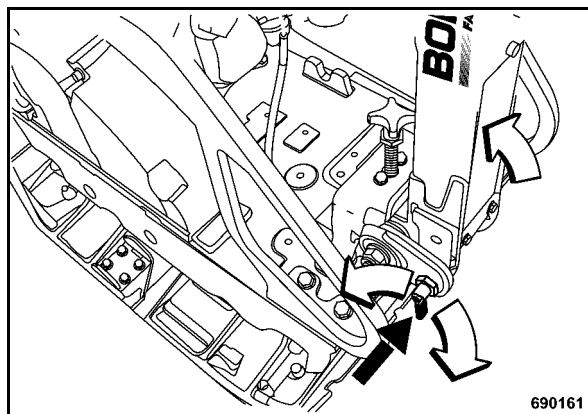

Fig. 31
- Set the steering rod (Fig. 31) to upright position.